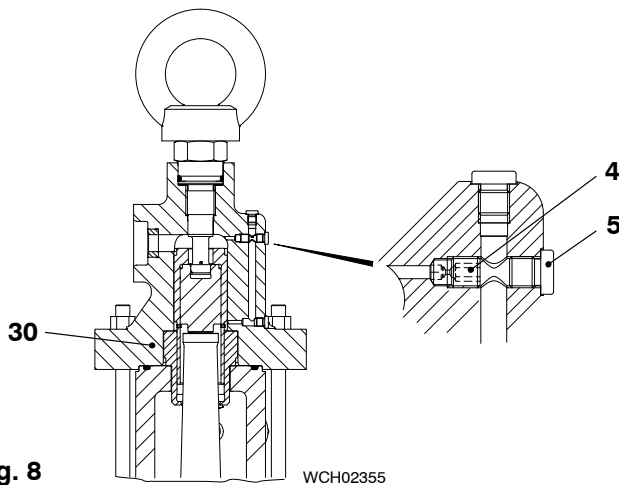

Fig. 8
- a) Remove the screw plug (5, Fig. 8).
- b) Remove the throttle (4).
- c) Make sure that the throttle (4) is clear.
- d) Put oil on the threads of the throttle (4).
- 2) Put the throttle (4) in position.
- 3) Torque the throttle (4) to 4.0 Nm.